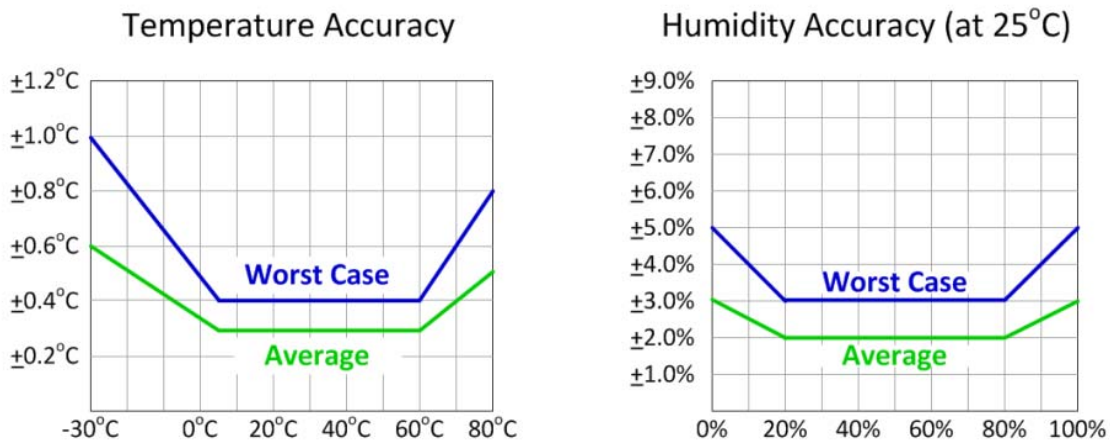

Figure 3: Temperature and Humidity Accuracy
• Temperature accuracy (-20°C to +60°C)	see accuracy curve in figure 3
• Relative humidity accuracy (0% to 100%)	see accuracy curve in figure 3